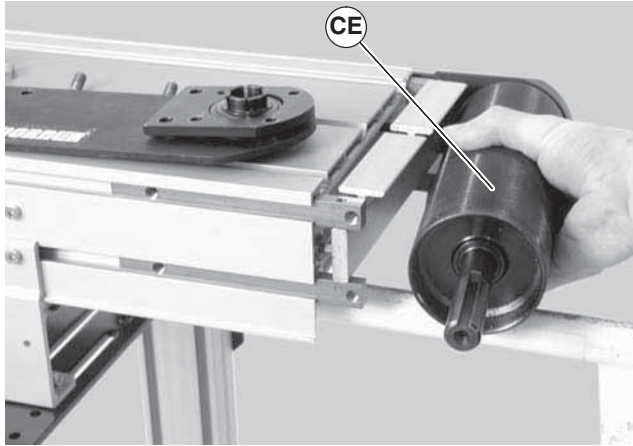

Figure 63
7. Slide the drive pulley (Figure 63, item CE) out of the headplate on the opposite side.